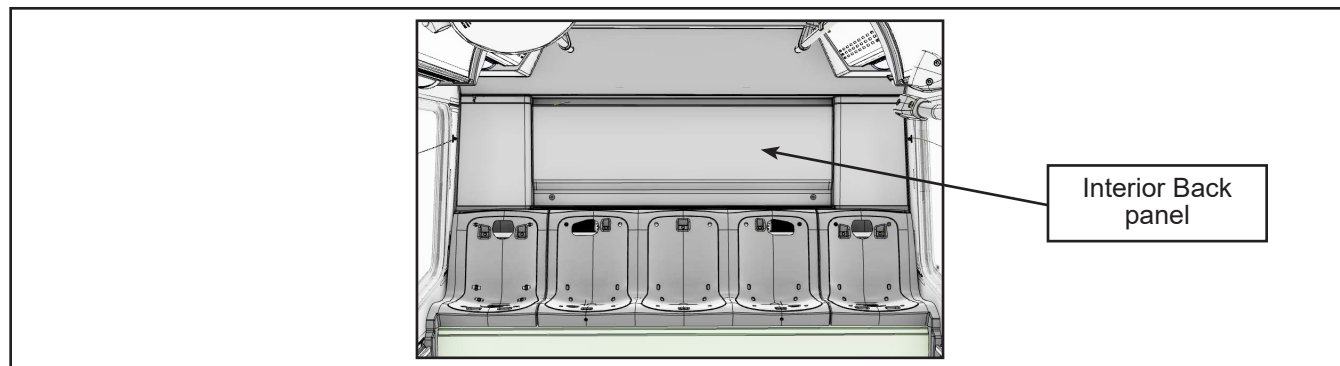

Figure 9 - Interior Back Panel
1.21. Inside the vehicle, open the Interior Back panel (IB panel) (Figure 9).